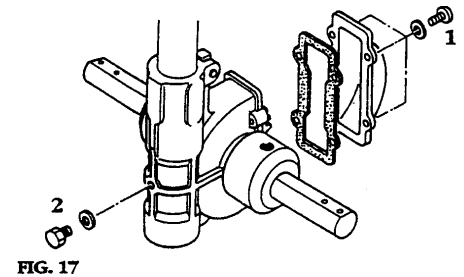

FIG. 17
4. (FIG. 17) Tine Shaft/Gear Case - The tine shaft should be thoroughly cleaned and oiled with a multi-purpose oil after every twenty-five hours of operation. The tine shaft should also be lubricated prior to storage. Every 25 hours and/or at the beginning of each season, the gear case should be filled with grease. Remove the gear case cover by removing four screws (1) and the bolt (2). Fill the gear case with a lithium based multipurpose grease. Insert grease tube nipple into bolt hole of gear case. Squeeze tube until grease is level with the gear case gasket surface. Reinstall gear case cover with gasket and tighten bolts securely. Reinstall bolt with gasket and tighten securely.